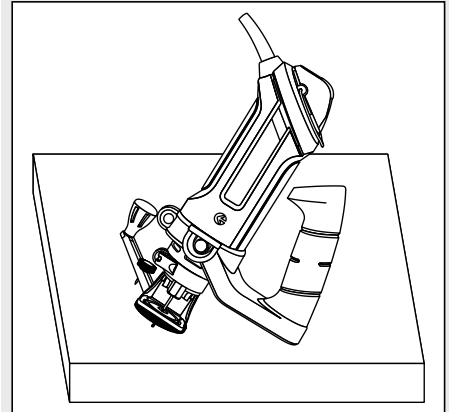

Fig. 13
- Rest the edge of the freehand cutting guide on the workpiece with the bit at an angle of about 45° (Fig. 13). Insert the circle cutting guide pivot point into the pilot hole drilled at the center of the circle.